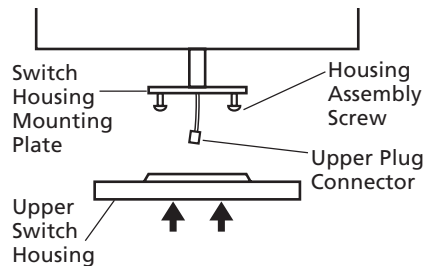

Figure 8a - Attaching Upper Switch Housing to Switch Housing Mounting Plate
1. Partially install two #6-32 x 3/8" housing assembly screws into the switch housing mounting plate as shown in Figure 8a.
2. Feed the upper plug connector through the center opening of the upper switch housing. See Figure 8a.